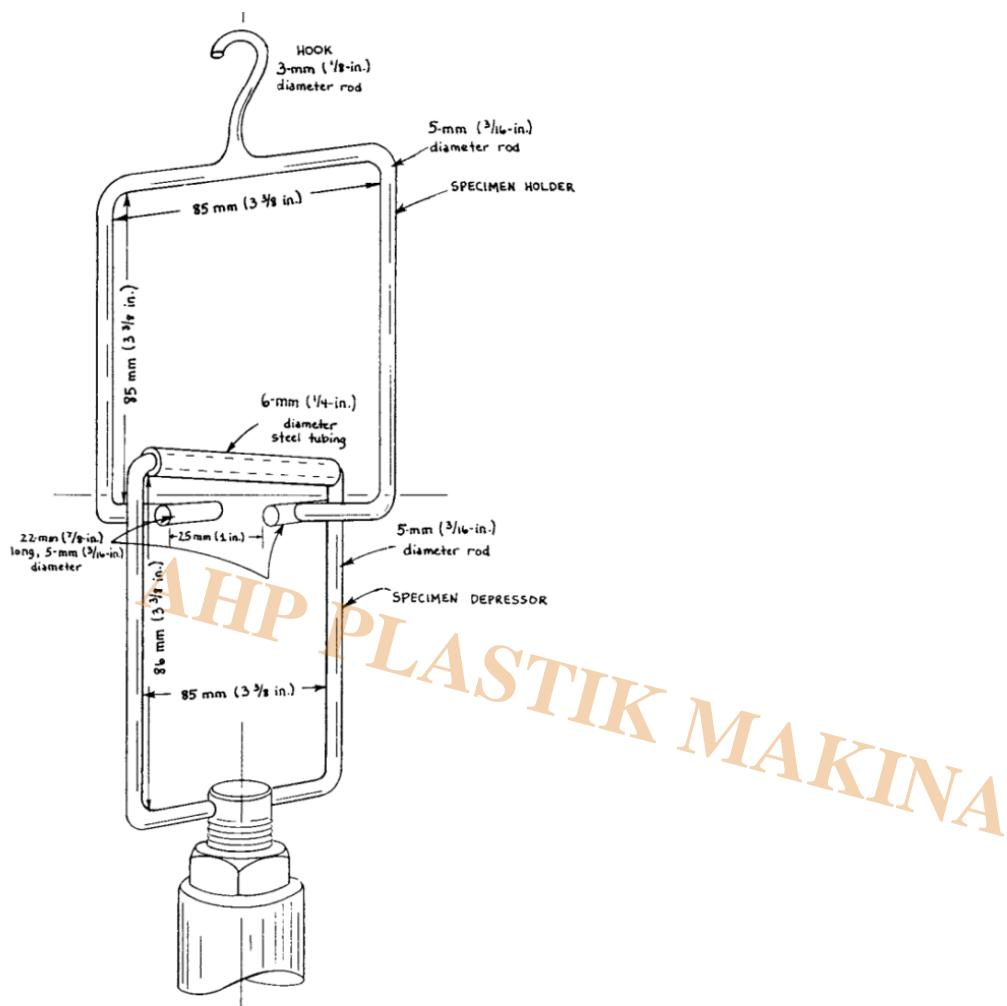

FIG. 4 Apparatus for Stiffness of Fabric Testing
38.4.3 Specimen Holder – An 85-mm (33 $\frac{1}{8}$ -in.) square frame made of 5-mm (1 $\frac{1}{4}$ -in.) diameter steel rod. In the middle of one side is a hook made of 3-mm (1 $\frac{1}{8}$ -in.) rod diameter for connecting the holder to the loading cell. In the middle of the opposite side, there is a 22-mm (7 $\frac{1}{8}$ -in.) long, 5-mm (1 $\frac{1}{4}$ -in.) diameter rod fastened at midpoint and at right angles to the side of the frame. These two 25-mm (1-in.) apart, form a rack on which the test specimens lay across the 25-mm (1-in.) opening (see Fig. 4).
38.4.4 Specimen Depressor, 85-mm (33 $\frac{1}{2}$ -in.) square frame, made of 5-mm (1 $\frac{1}{2}$ -in.) diameter steel rod, rigidly fastened with a threaded connector to the lower crosshead. The side opposite the crosshead connection is covered with a 6-mm (1 $\frac{1}{2}$ -in.) diameter piece of steel tubing. This forms a bar, which presses against specimens to bend them during the test (see Fig. 4).